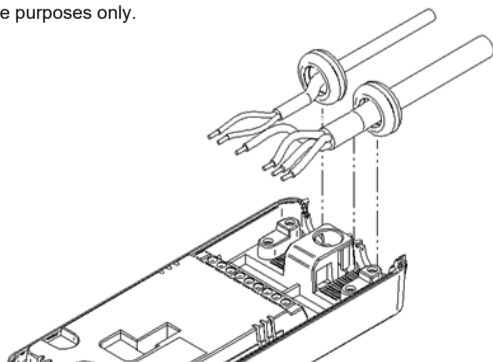

Fig. 5 - Secure cables
8. Secure the cable with the cable clamps and screws provided in your fixing kit. Note: cable clamps can be placed in high or low receptacles and can also be flipped to better compress the chosen cable. – Fig. 5